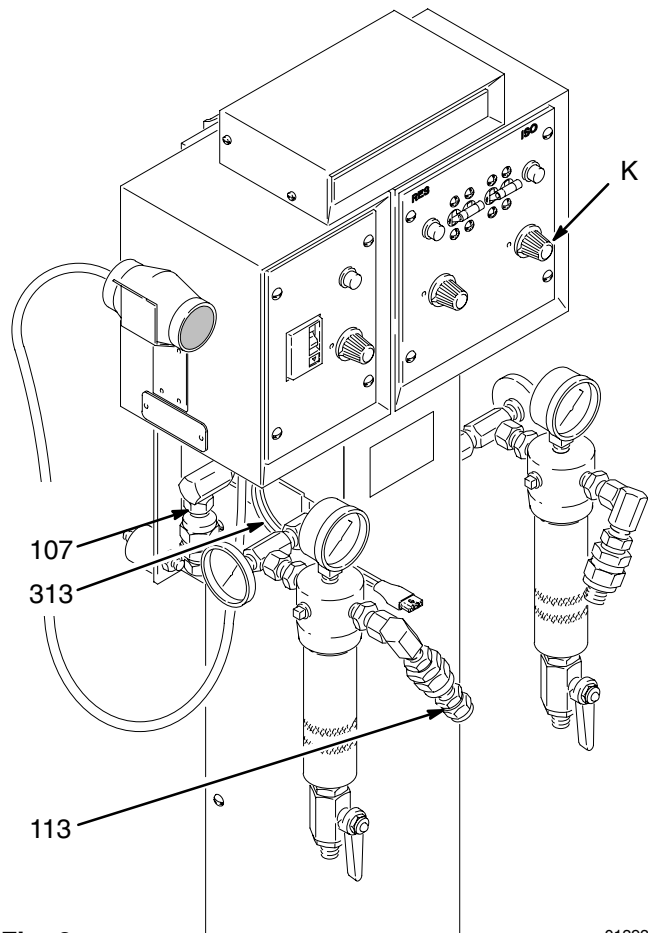

Fig. 6
4. Be sure the heater and heated hose controls (K) are turned OFF. See Fig. 6.